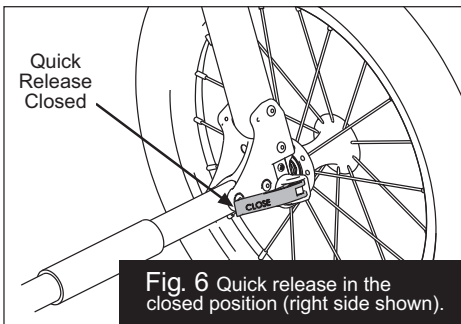

**Fig. 4** Rear wheel Quick Release with lever in open position.
**4. REAR WHEEL:** Place the rear wheel quick release lever in the open position, as shown in Fig. 4. Insert the rear wheel's stub axle into the hole in the
rear dropout. If the axle does not slide in easily, loosen the quick release adjusting nut (Fig. 4) by hand. Re-insert the axle fully into the rear dropout until the axle shoulder or snap ring on the axle comes in contact with the dropout (Fig. 5). Move the quick release lever to the closed position (Fig. 6). The word CLOSE should be clearly visible and the quick release lever should almost touch dropout. When properly adjusted, it will require considerable torque (80-105 in-lbs or 9-12 Nm) to close the lever. If you do not feel this resistance (too loose or too tight), return the quick release lever back to the open position (Fig. 4), and adjust the adjusting nut (clockwise to tighten, counterclockwise to loosen). Move the quick release lever to the closed position (Fig. 6). NOTE: Follow all instructions exactly. If you are unsure how to operate the quick release, consult your dealer or contact BOB.